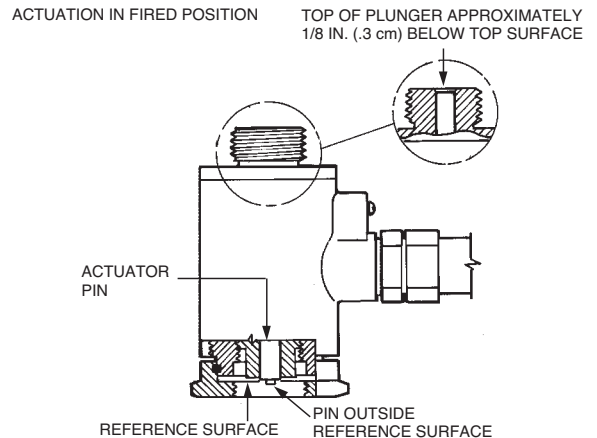

FIGURE 12
- b. The actuator is in the fired position if the following conditions exist: See Figure 12.